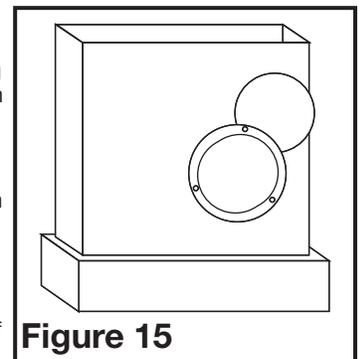

Figure 15
5. Mount the bypass collar and damper using the remaining three screws from the installation package. The air damper should be mounted in the open position. The top screw secures the damper (**Figure 15**).